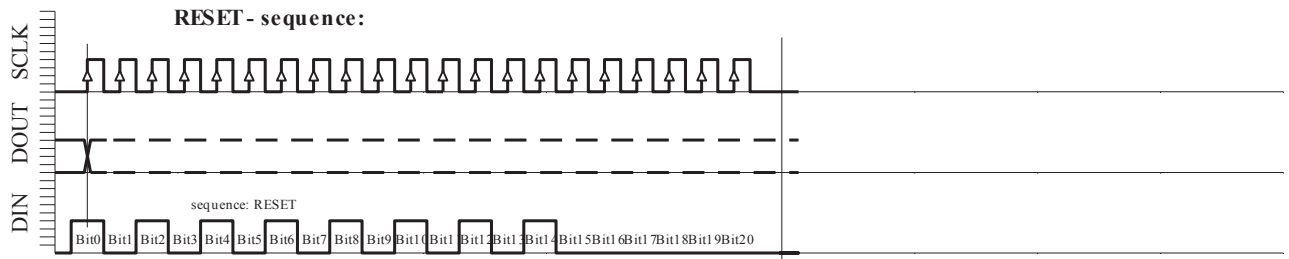

Fig. 6e: RESET sequence (21 bit)
- ◆ RESET sequence (Figure 6e)
The RESET sequence is special as the module in any state recognizes its unique pattern. By consequence, it can be used to restart if synchronization between the microcontroller and the MS5535C has been lost. This sequence is 21-bit long. The DOUT signal might change during that sequence (see Fig. 6e). It is recommended to send the RESET sequence before each CONVERSION sequence to avoid hanging up the protocol permanently in case of electrical interference.